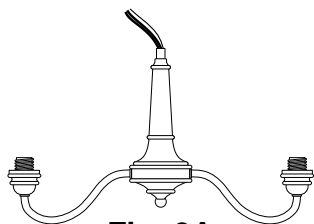
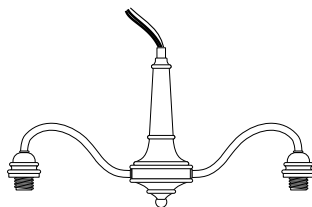

Fig. 2A
Fig. 2B
8. Feed the fixture wires from the **main fixture body** (D) through the **tubes** (B and/or C) and through the **canopy** (A).
9. Use the **nipples** (L) to screw the **tubes** (B & C) together.
10. Rotate each arm so that all the arms face up (**Fig. 2A**) or down (**Fig. 2B**).